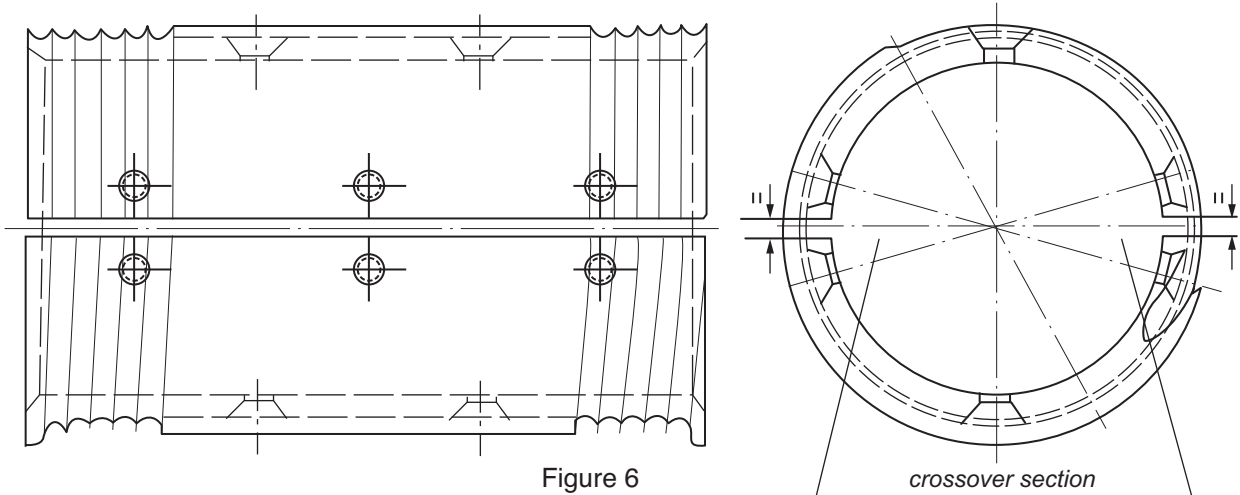

Figure 6
- 6) Turn the drum to the opposite side, reset drill base fixture and drill and tap the drum. Drilling and tapping completed on the first half, the drum has been positioned and cleaned; ready to install the second half (figure 6)